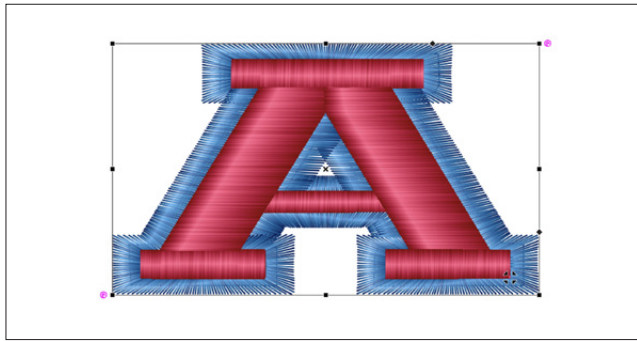

Figure 24
4. To stretch your object either horizontally or vertically, use the handles on the top or bottom or the left or right. **See Figure 24.**